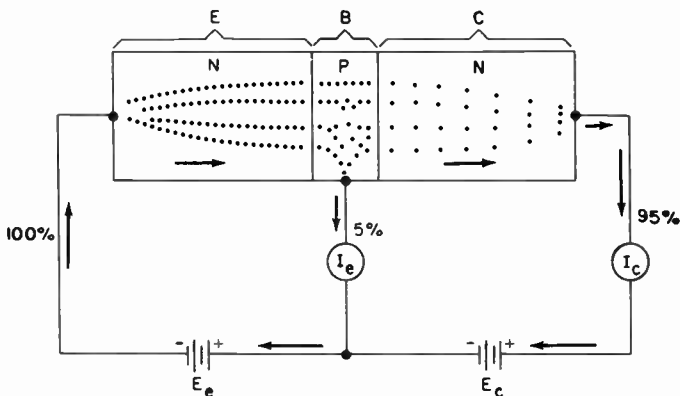

FIG. 10-6. ELECTRON FLOW IN A JUNCTION TRANSISTOR.
ized, the negative charge produced in the P-type material is quite small. Therefore, the number of free electrons available to return to battery  $E_e$  is also correspondingly small. Electrons that enter B from E are now subject to the forces produced by two electric fields: (1) the field produced by battery  $E_e$  and (2) the field produced by batteries  $E_e$  and  $E_c$  connected in series aiding. Since battery  $E_c$  is generally of a larger voltage than  $E_e$  and, furthermore, since the two batteries in series give rise to a much stronger electric field than  $E_e$  alone, most of the electrons follow the electric lines produced by the stronger field, with relatively few taking the path offered by the weaker field. Hence, most of the electrons that enter B from E diffuse across the B-C junction, travel through section C and return through  $E_c$  to the positive end of the battery  $E_e$ . In Fig. 10-6, this comparative motion of electrons has been illustrated pictorially.